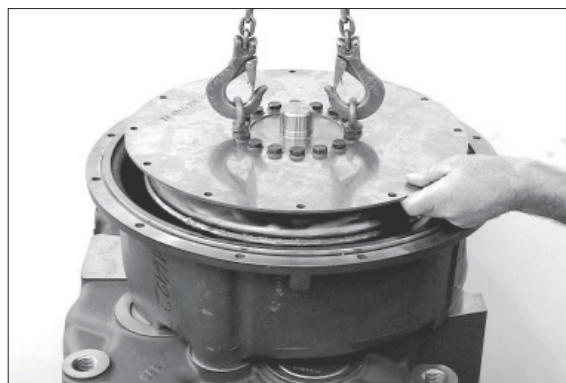

Figure 368
(9) Assemble converter by means of lifting tackle until contact (figure 368).